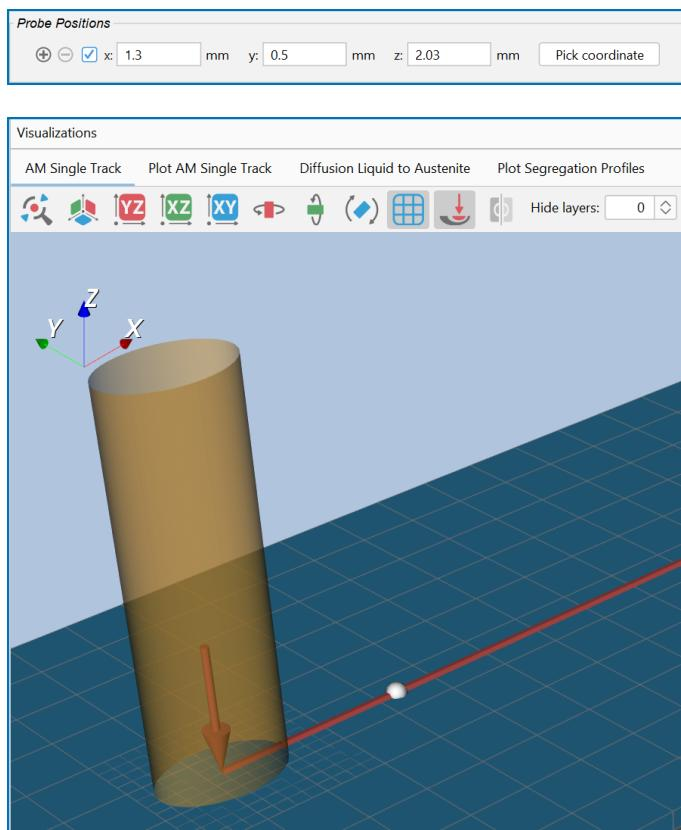

Figure 179: Close up of the probe point added to the geometry for the single track AM simulation.
- **Probes:** Probes are added to the AM Calculator during the set up either by entering coordinates or directly adding these to the geometry. See Figure 179 and Figure 180 for example.